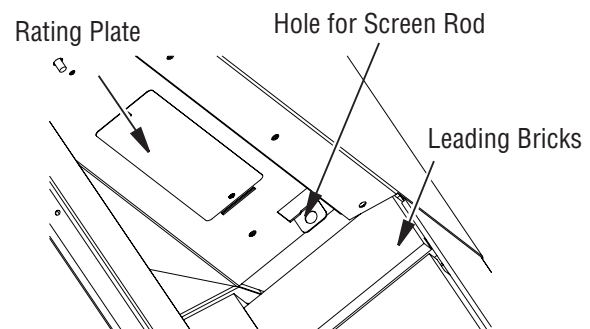

Figure 34 - Installing Fireplace Screen
2. Insert the round end screen rod into hole on the left and right side of smoke shelf (Figure 34).